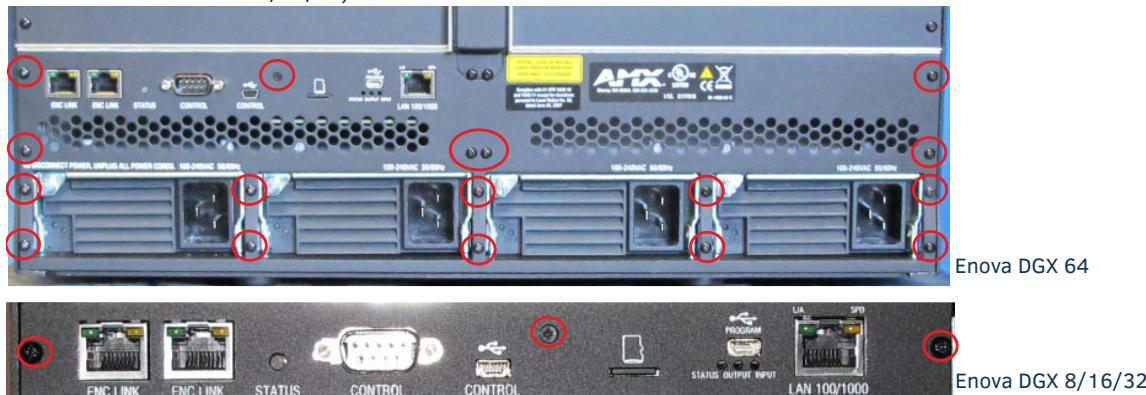

FIG. 123 Remove screws that hold faceplate
3. Remove the screws from CPU faceplate per the locations indicated in FIG. 123 (seventeen screws in Enova DGX 64, three screws in Enova DGX 8/16/32).